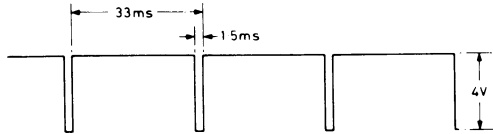

Fig. 4.5 TP1, standard divider
2. Connect the oscilloscope to TP1, the waveform should be as Fig. 4.5.